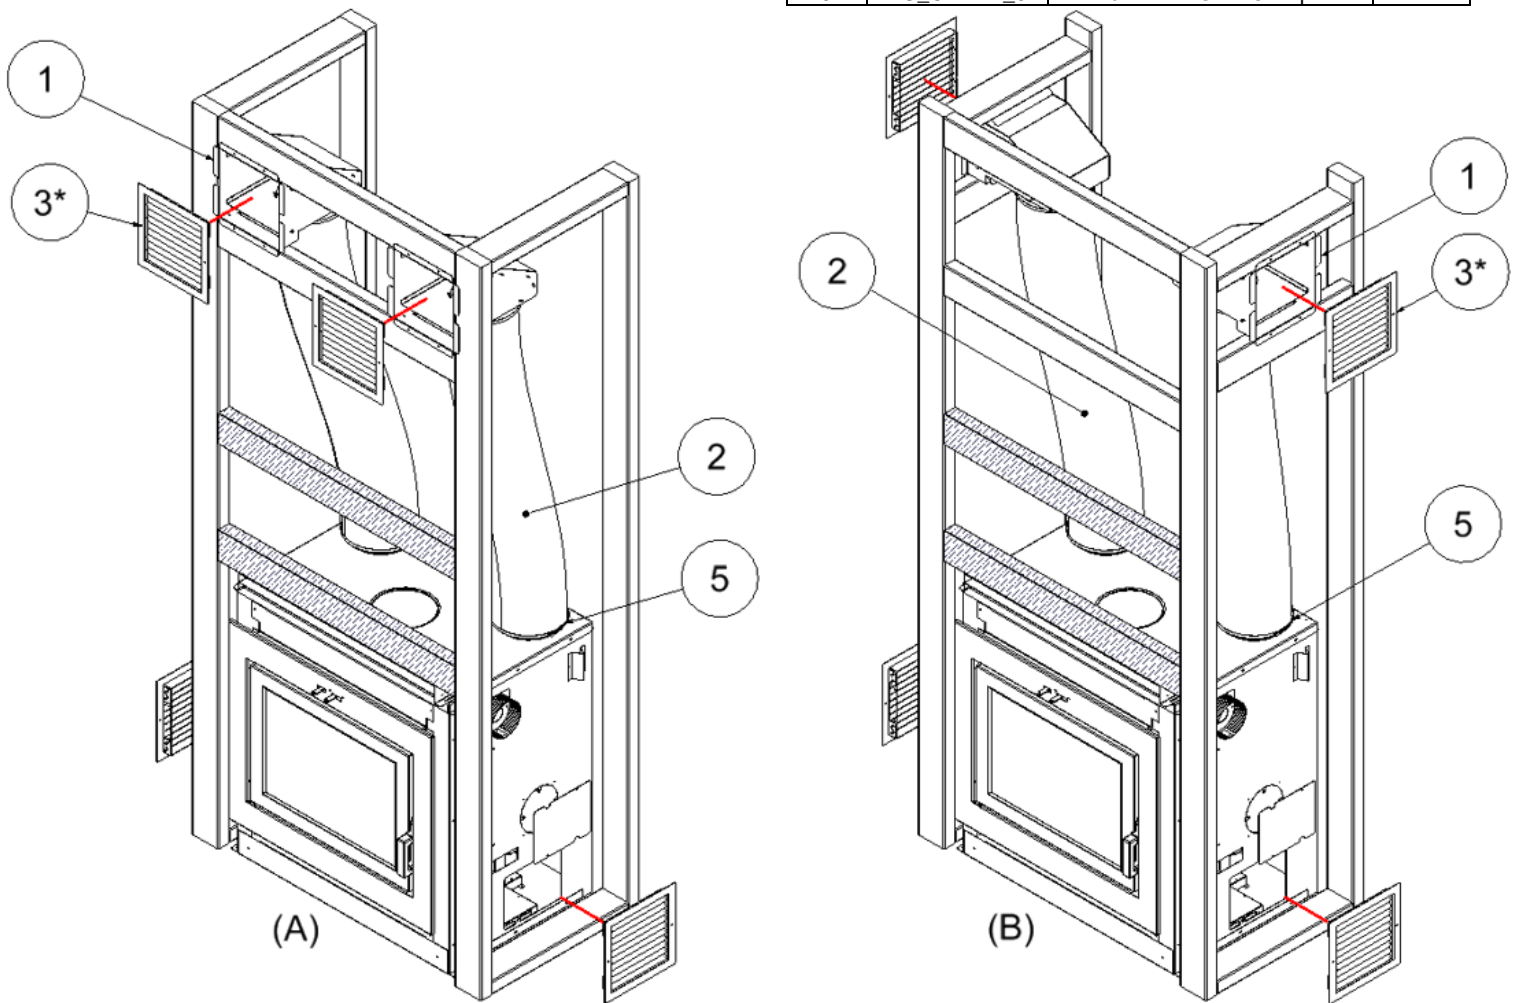

Figure 3-13: Astra 18 6” Dual Gravity Duct Installation with Outtakes at (A) Front Wall and (B) Side Wall
3. Within the outtake opening, fasten the Louver Diffuser Assembly (Item 1 of Figure 3-13) to the framing with the 6" duct adapter facing the downward position. Repeat for the other outtake opening.
4. Measure the distance between the Duct Adapter on top of the unit to the Duct Adapter on the Louver Diffuser Assembly and cut the 6" Flex Insulated Duct (Item 2 of Figure 3-13) to the necessary length. Repeat for the other outtake.
5. Complete the connections by sliding the 6" Flex Insulated Ducts over the Duct Adapters and secure the connections with the 6" Worm Gear Clamps (Item 5 of Figure 3-13).